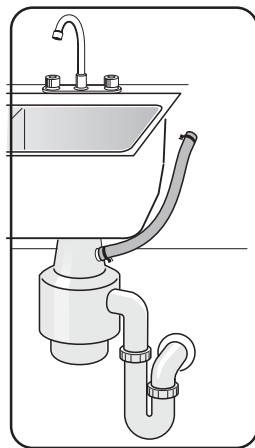

Figure 24
- 2 Directly to a disposer dishwasher drain connection, as shown in **Figure 24**.